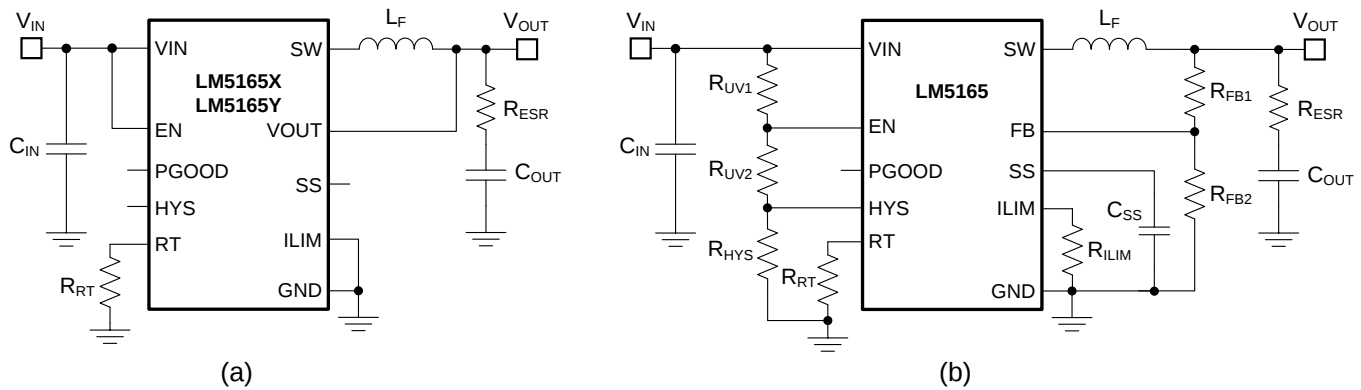

Figure 1. LM5165 COT-controlled Buck Converter Schematics, (a) Fixed Output 3.3 V or 5 V, (b) Adjustable Output
Figure 1(a) shows the schematic of a minimum parts count, fixed output voltage (3.3 V or 5 V), COT converter with continuous output current capability up to 150 mA. Figure 1(b) shows the schematic of a similar COT converter with output voltage adjustable using feedback resistors. Soft-start (SS), current limit (ILIM) and UVLO (EN and HYS) components are shown that are configurable as required by the specific application. The ripple voltage required at the FB pin is established using resistor $R_{RIPPLE1}$ in series with the output capacitor.